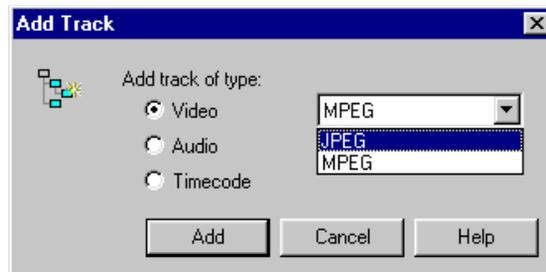

Figure 150. Add Track dialog box for video
- To add a video track, click the **Add Track** button and the Add Track dialog box appears (see Figure 150). Click **Video**, then select either **JPEG** or **MPEG**, depending on the type of track you want. Click **Add** when done. The new video track icon will appear in the configuration tree.